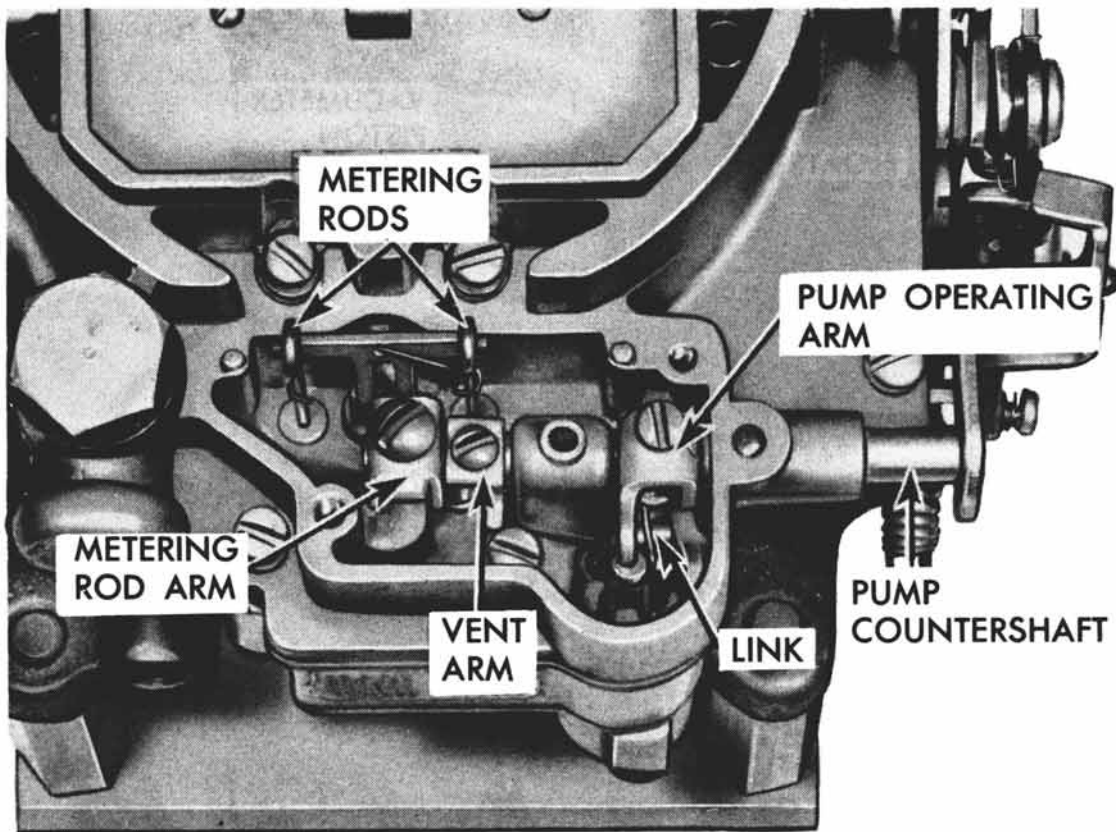

Fig. 22-C Metering Rod Housing Components
6. Loosen, but do not remove screws securing pump operating arm and metering rod arm to countershaft and pull countershaft out of bowl cover. These parts are shown in their assembled positions in Fig. 22-C.